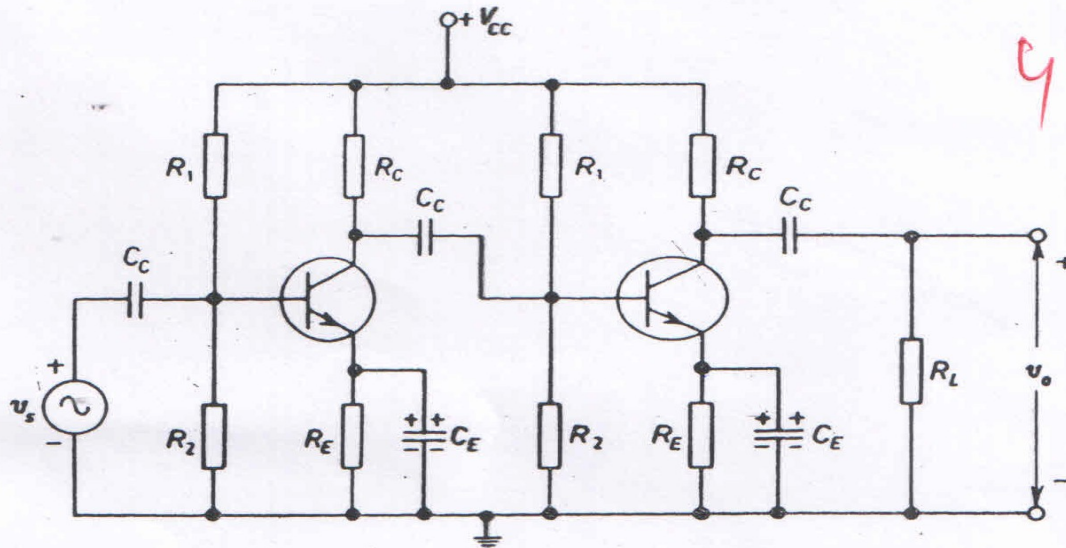

Fig. 9.2 Two-stage RC -coupled amplifier using transistors
Figure 9.2 shows how to couple two stages of amplifiers using resistance-capacitance (RC) coupling scheme. This is the most widely used method. In this scheme, the signal developed across the collector resistor R_C of the first stage is coupled to the base of the second stage through the capacitor C_C . The coupling capacitor C_C blocks the dc voltage of the first stage from reaching the base of the second stage. In this way, the dc biasing of the next stage is not interfered with. For this reason, the capacitor C_C is also called a *blocking capacitor*.